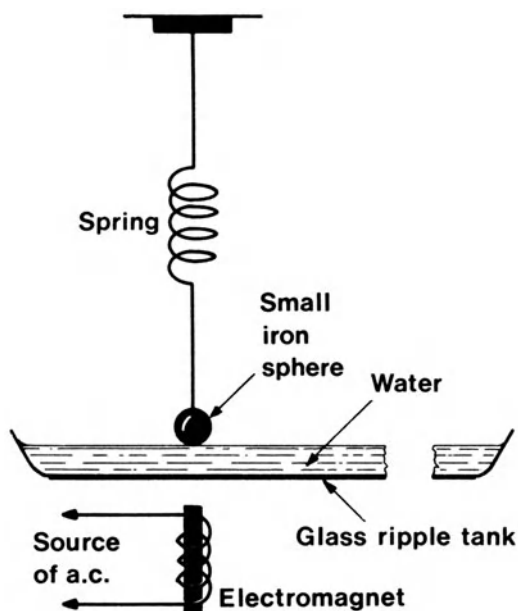

FIG. 3.53
40. Jack and Jill passed 'O' level last year and are now taking Physics in the sixth form. One exercise set them is to construct a new form of ripple-tank vibrator from laboratory materials, not using an electric motor. Jack thinks of several designs that are dismissed as too complicated, but finally produces the plan shown in Fig. 3.53. He proposes to connect a small low-voltage mains (50 cycles per second) transformer at 'source of a.c.'.